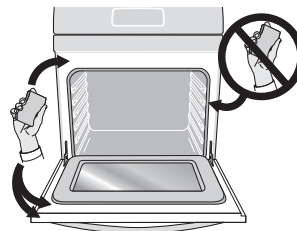

Figure 44: Clean around the oven door gasket
9. Wipe oven cavity and bottom. Do not clean oven door gasket (Figure 44). Avoid leaning or resting on the oven door glass while cleaning cavity.